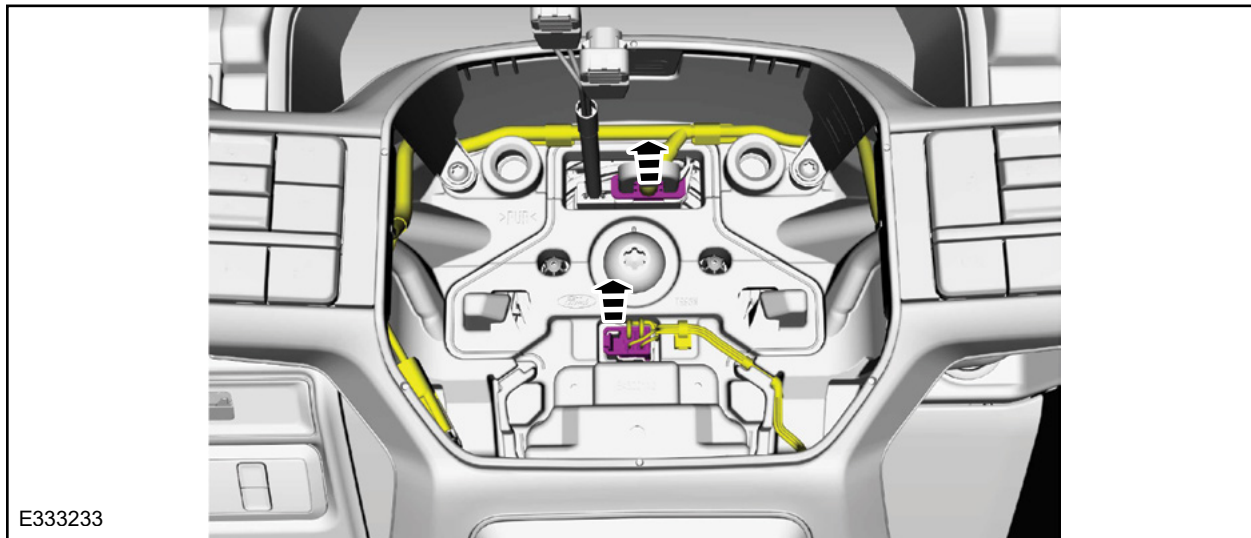

FIGURE 11
2. Disconnect the steering wheel electrical connector(s). See Figure 11.